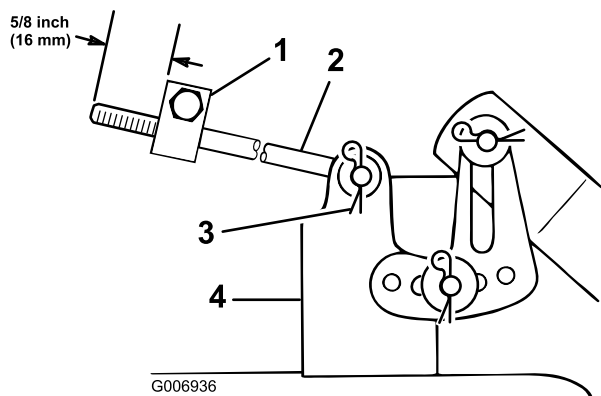

Figure 49
6. Measure the length of the rod extending out of the front of the adjusting block on the sides of the chassis (Figure 49). If the rod length is not 5/8 inch (16 mm), remove the hairpin cotter and washer from the end of the rod (Figure 49) and turn the rod until it extends out 5/8 inch (16 mm).